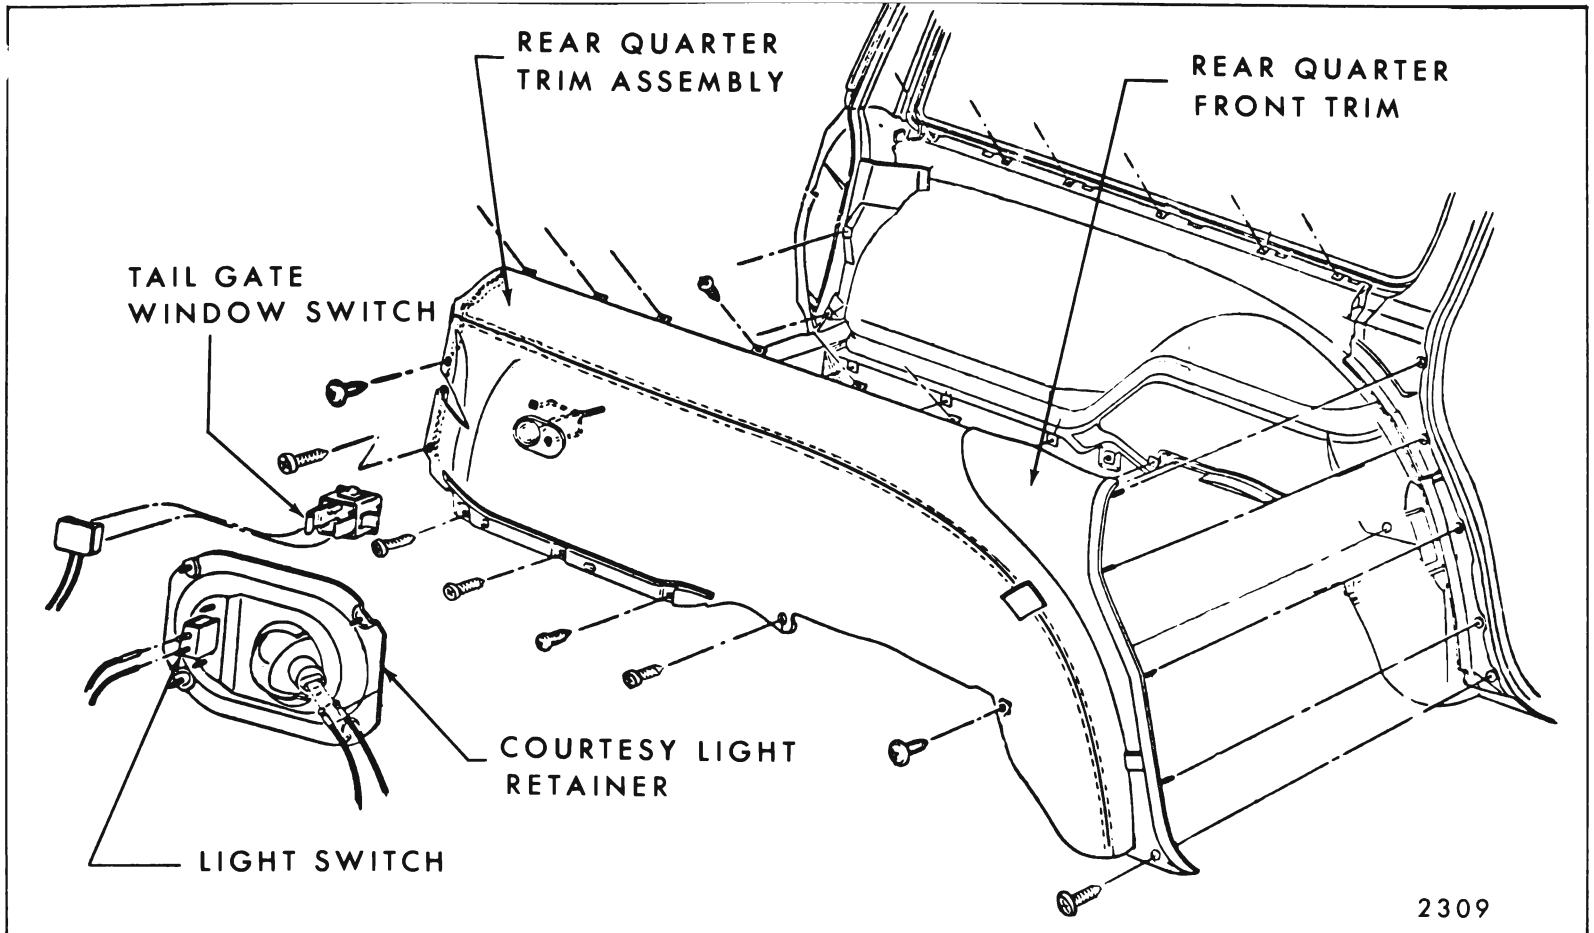

Fig. 8-16—Rear Quarter Trim Panel Left Side - "B" Station Wagons
2. Remove all screws securing trim panel to rear quarter inner panel (Fig. 8-16).
pillar (on front edge of rear quarter front trim assembly) (Fig. 8-16).
- Lift assembly upward slightly to disengage from rear quarter inner panel and remove assembly from body. On styles equipped with courtesy lamp disconnect feed wire from switch and lamp (Fig. 8-16, View "A").